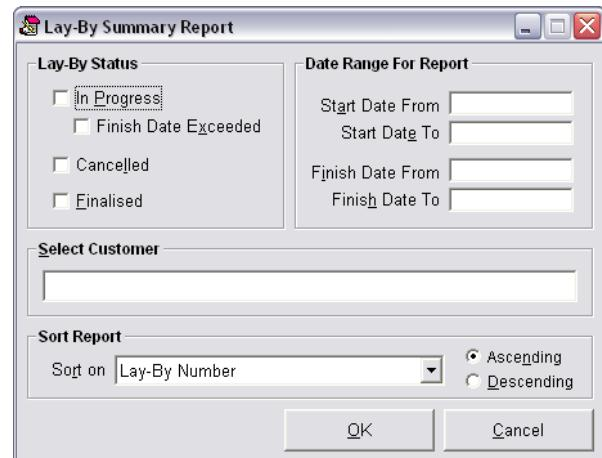

Figure 89
2. This will display the 'Lay-By Summary Report' (see Figure 89).